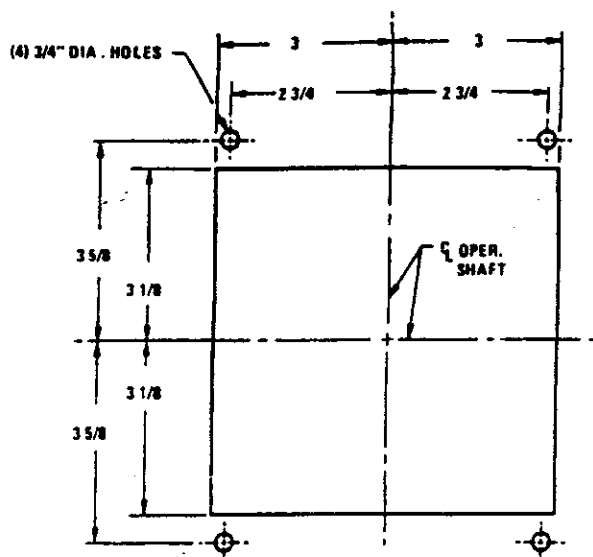

Fig. 6
- b. If it has not already been done, cut opening and drill or punch four 3/4" diameter holes on left side of enclosure per pattern shown in Fig. 6. (The same information appears on direct drive handle Dwg. S-20149).